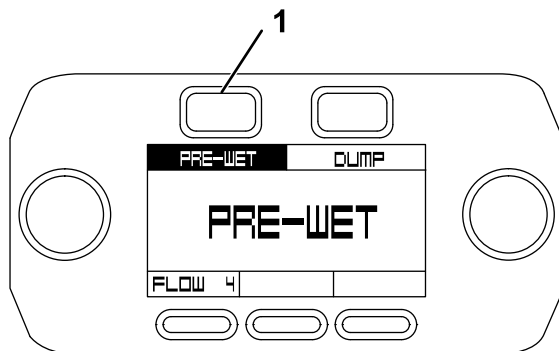

Figure 42
3. On the pre-wet screen, press the Pre-Wet button (Figure 42).